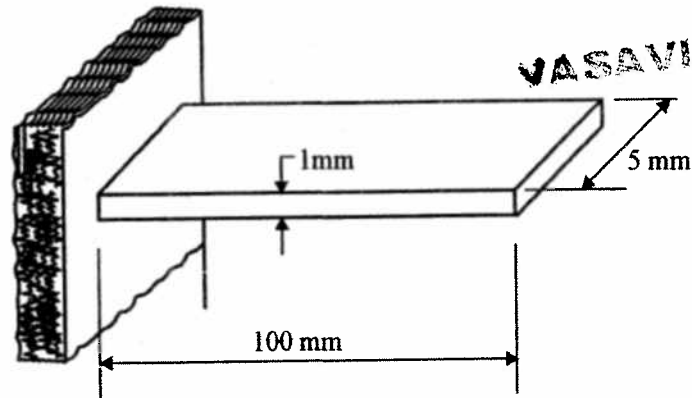

Fig. 6
16. A rectangular fin shown in fig. 6 is attached to a surface at $100\text{ }^{\circ}\text{C}$. The lateral surface and the top are exposed to ambient temperature of $20\text{ }^{\circ}\text{C}$. Consider two elements. Compute the temperatures at the nodes.